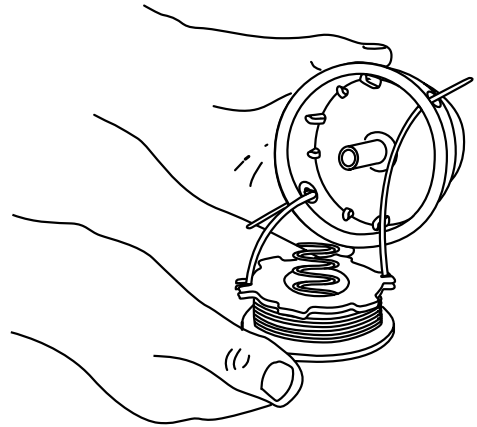

Fig. 28
9. Place the spring in the inner reel. Insert the ends of the line through the eyelets in the outer spool and place inner reel inside the outer spool (Fig. 28). Push the inner reel and outer spool together. While holding the inner reel and outer spool, grasp the ends and pull firmly to release the line from the holding slots in the spool.